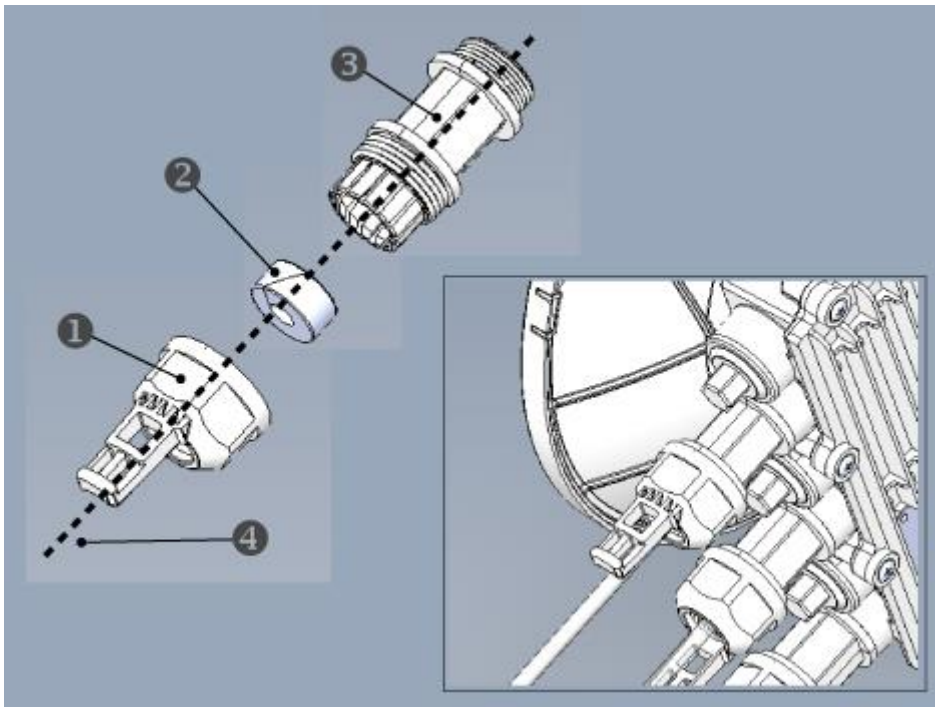

Figure 2-6: All-Weather Connecting Cable Shell Assembly
Before inserting a cable connector into the ODU, you must first enclose the cable connector in a protective All-Weather shell. Three sets of All-Weather shells are provided with the ODU for the ODU interfaces. The protective All-Weather shell assembly is shown in Figure 2-6.
- a. Disassemble a protective shell by unscrewing its parts and carefully removing the rubber gasket insert (❷) from the cable inlet portion (❶) of the shell.
- b. Thread the cable connector through the cable inlet portion (❶) of the shell, through the rubber gasket insert (❷) and through the connector outlet portion (❸) as shown in Figure 2.6.
- d. Screw the connector outlet portion (❸) to the ODU firmly by hand (do not use tools).
- e. Insert the rubber gasket insert snugly into the connector outlet portion (❸) of the shell.
- f. Screw the cable inlet portion (❶) to the connector outlet portion (❸) firmly by hand (do not use tools).
To avoid accidental damage to the connector, always use the following order to remove cable connections from the ODU (refer to Figure 2.6).